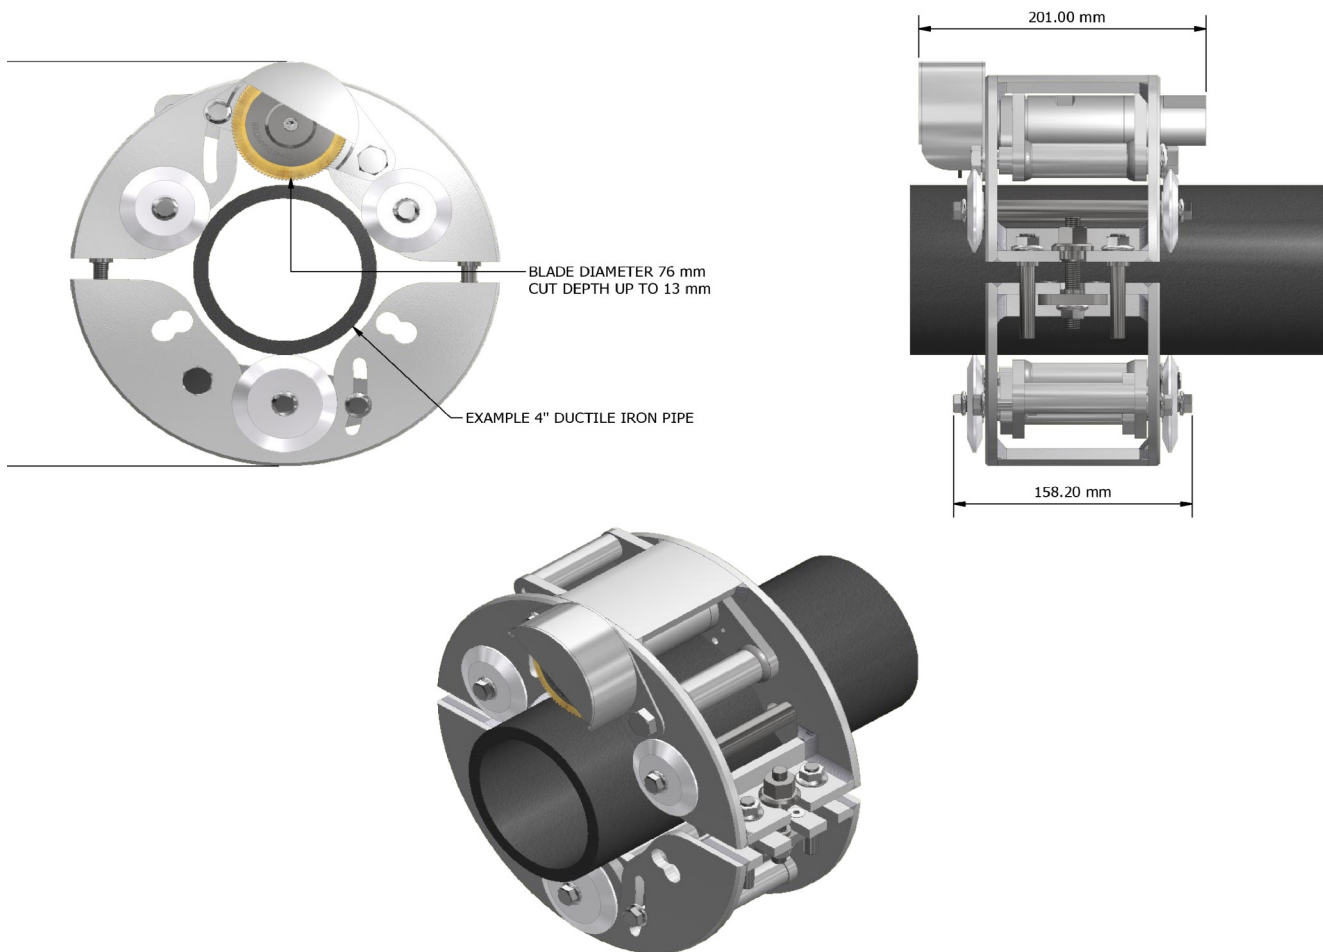

Figure 4 Features of the Rapid Rotary Cutter Steel
4.9 Ensure the lubricator unit is connected to the hose arrangement and correctly filled with anti-freeze air tool lubricator oil. If necessary adjust the oil drip feed but a full turn clockwise. See oil feed adjuster screw figure 4 page 6.